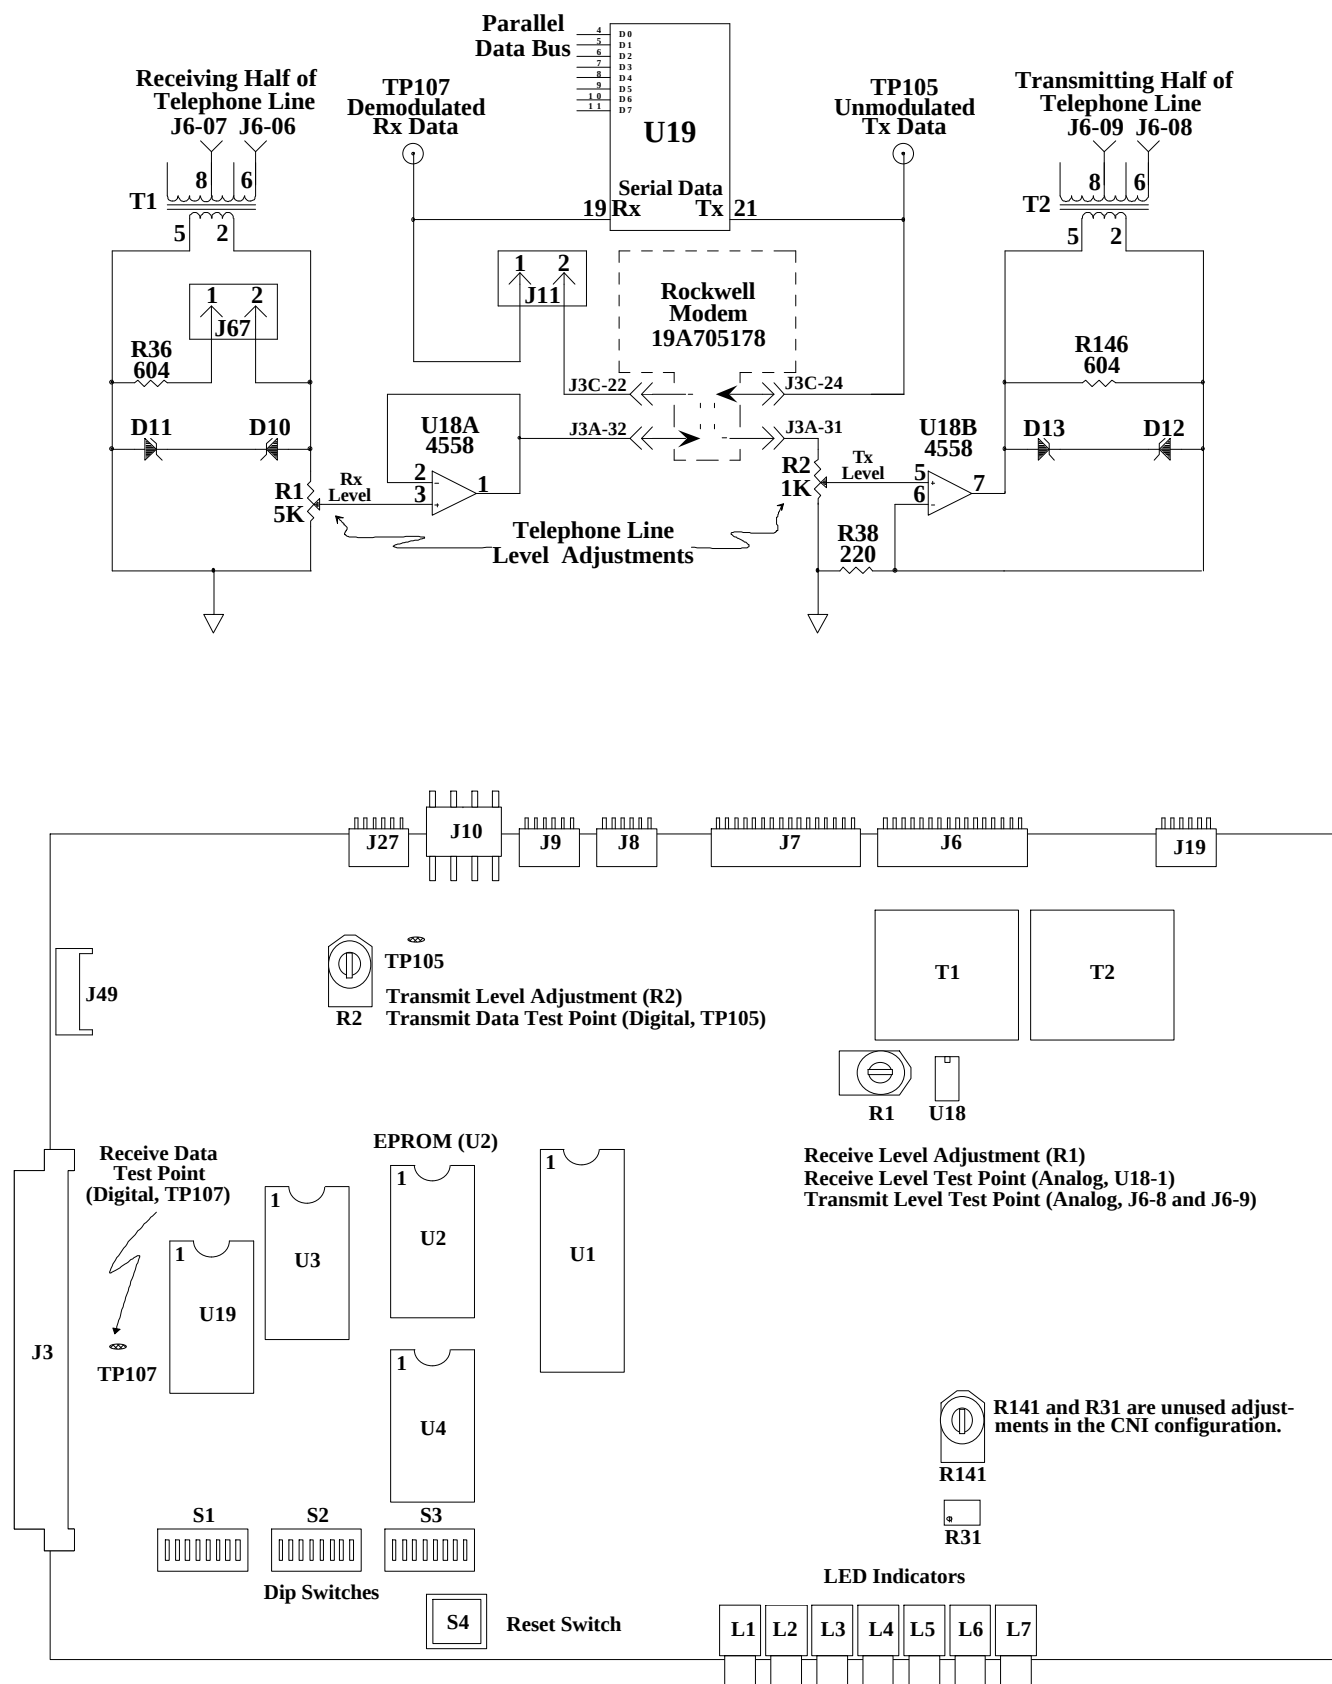

Figure 4 - GETC Phone Line Level Adjustments
3. Adjust the receive level by monitoring U18 pin 1 (refer to Figure 4) and adjusting the receive level potentiometer R1 (located on the GETC Logic Board) for 400 mVpp as measured with an oscilloscope (85 mVrms if using an RMS Voltmeter).